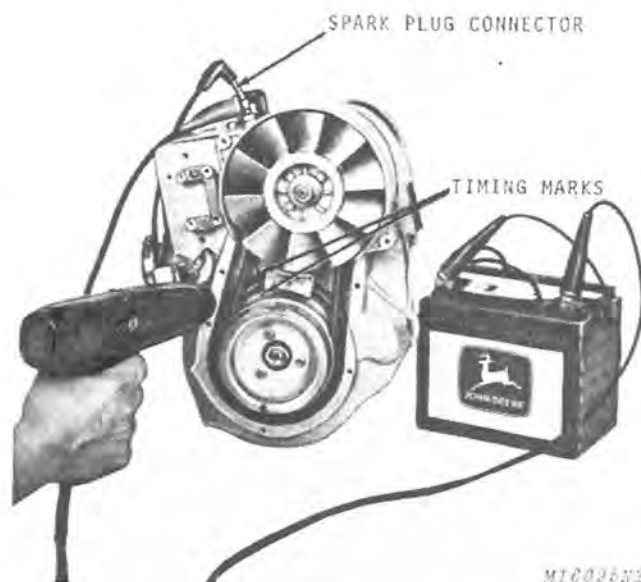

Fig. 13-Timing Ignition
6. Connect a timing light to No. 1 spark plug lead and to a 12-volt battery as shown in Fig. 13.